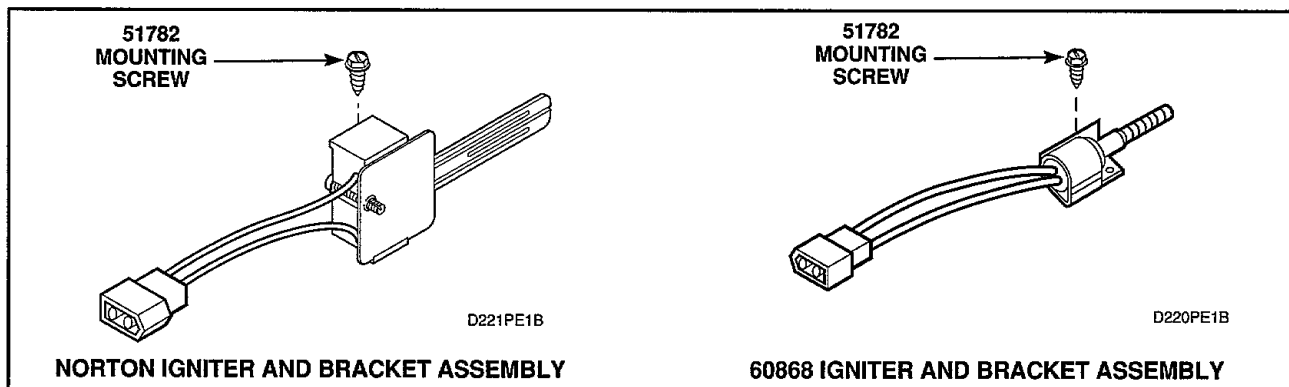

Figure 56
- Norton Igniter** — meter should read between 45-200 OHMS, *Figure 56*.
- 60868 Igniter** — meter should read between 75-800 OHMS, *Figure 56*.